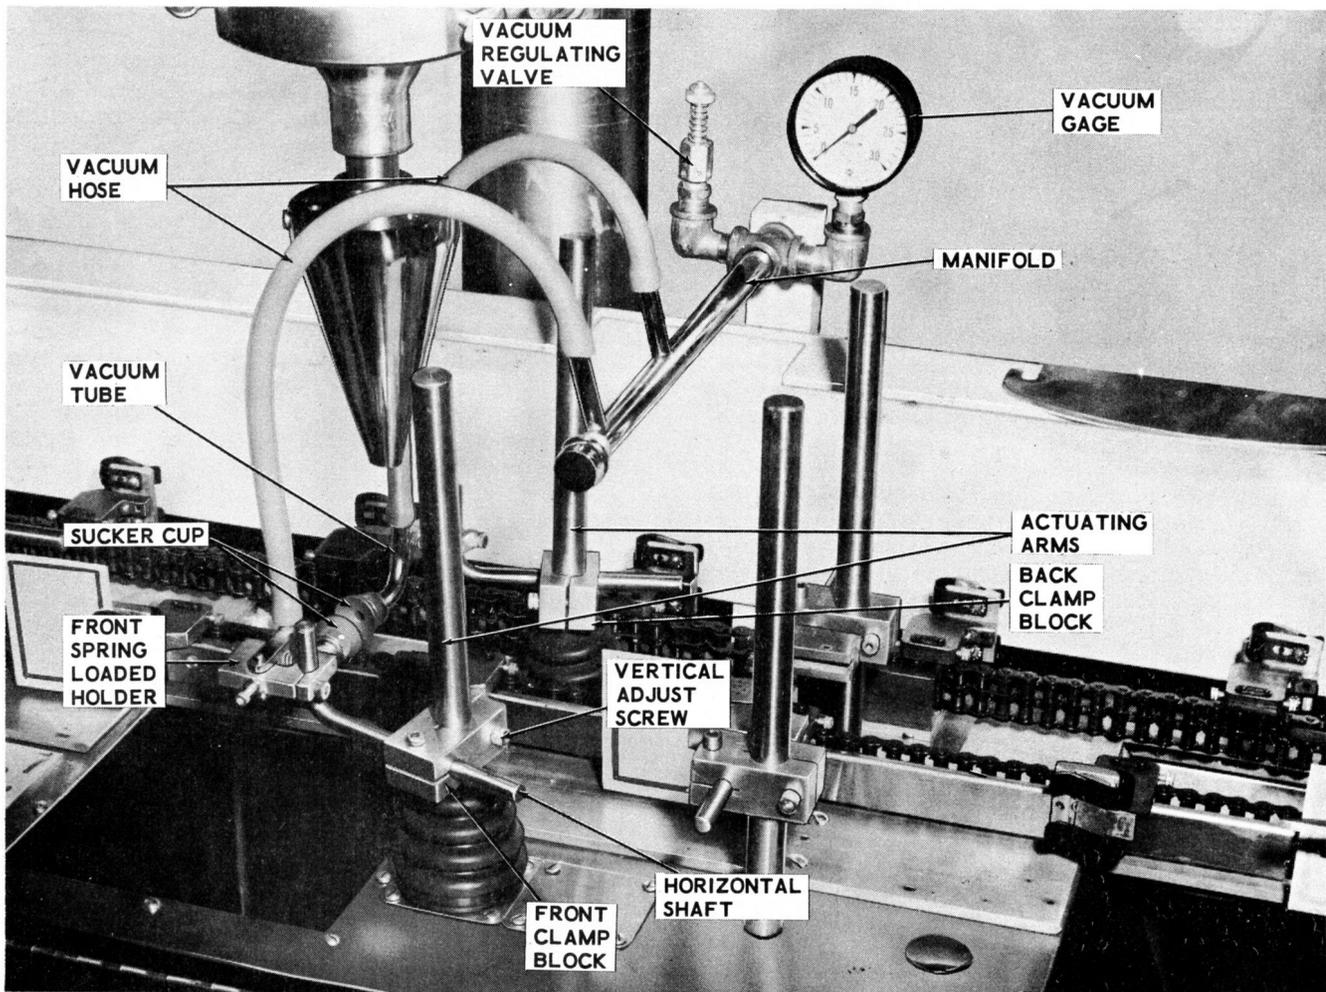

Figure 3-48. Vacuum Openers
The vacuum opener assembly (Figure 3-48) can be used with all non-porous webs. This type of opener operates at the filler station, opening the pouch before and during the fill. The cams actuating the mechanism may be rotated about the cycle shaft to provide a correction in the timing of the motion. Dependent upon speed and fill different cams will be recommended. Vacuum to operate this system is produced by a pump mounted on the back of the packager. The system also
- c. With rocker arms closed, loosen the vertical adjust screw (Figure 3-48) and move clamp block up or down on the vertical rocker arm until sucker cup is approximately 1/2 inch from top of pouch. Tighten vertical adjust screw. Repeat this procedure with back sucker cup.